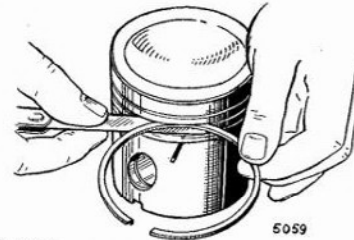

Fig. B.104. Checking piston ring to groove vertical clearance, using a feeler gauge
3. Check the piston rings for vertical clearance all round their respective grooves (see Fig. B.104). The piston rings and/or pistons should be renewed if the vertical clearance is appreciably in excess of the following designed limits:
With a feeler gauge check the rings for correct vertical clearance all round their respective piston grooves (see Fig. B.104). This clearance should be .0019 in. to .0039 in. (.048 mm. to .099 mm.) for compression rings, and .0015 in. to .0035 in. (.038 mm. to .089 mm.) for scraper rings when new.